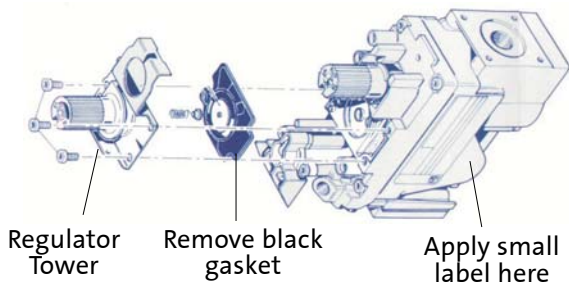

Figure 26. Regulator assembly.
13. **Replace the Variable Regulator.** Using a Torx T-20 screwdriver, remove the three screws from the front of the valve regulator. See fig. 26.